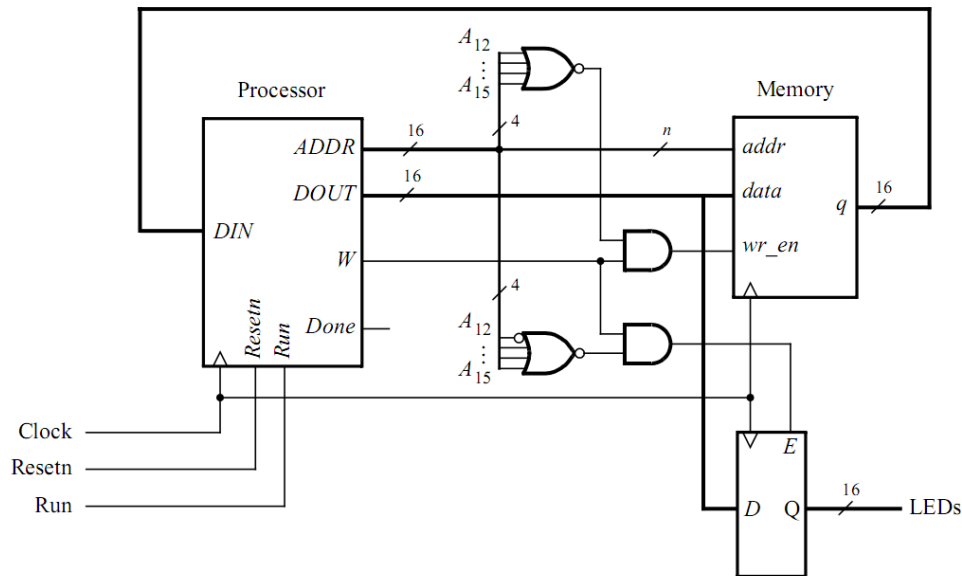

Figure 8. Connecting the enhanced processor to a memory and output register.
Figure 8 illustrates how the enhanced processor is connected to memory and other devices. The memory unit in the figure supports both read and write operations and therefore has both address and data inputs, as well as a write enable input. The memory also has a clock input, because the address, data, and write enable inputs must be loaded into the memory on an active clock edge. This type of memory unit is usually called a synchronous random access memory (synchronous RAM). Figure 8 also includes a 16-bit register that can be used to store data from the processor; this register might be connected to a set of LEDs to allow display of data on the DE2-115 board.
To allow the processor to select either the memory unit or register when performing a write operation, the circuit includes some logic gates that perform address decoding: if the upper address lines are $A_{15}A_{14}A_{13}A_{12} = 0000$, then the memory module will be written at the address given on the lower address lines. Figure 8 shows n lower address lines connected to the memory; for this exercise a memory with 128 words is probably sufficient, which implies that $n = 7$ and the memory address port is driven by $A_6 \dots A_0$. For addresses in which $A_{15}A_{14}A_{13}A_{12} = 0001$, the data written by the processor is loaded into the register whose outputs are called LEDs in Figure 8.
2. Write Verilog code for the processor and test your circuit by using functional simulation: apply instructions to the DIN port and observe the internal processor signals as the instructions are executed. Pay careful attention to the timing of signals between your processor and external memory; account for the fact that the memory has registered input ports, as we discussed for Figure 8.
3. Create another Quartus II project that instantiates the processor, memory module, and register shown in Figure 8. Use the Quartus II MegaWizard Plug-In Manager tool to create the RAM:1-PORT memory module. Follow the instructions provided by the wizard to create a memory that has one 16-bit wide read/write data port and is 128 words deep. Use a MIF file to store instructions in the memory that are to be executed by your processor.
to constrain the circuit's clock to this frequency. Read the Report produced by the Quartus II Timing Analyzer to ensure that your circuit operates at this speed; if not, use the Quartus II tools to analyze your circuit and modify your Verilog code to make a more efficient design that meets the 50-MHz speed requirement. Also note that the Run input is asynchronous to the clock signal, so make sure to synchronize this input using flip-flops. Connect the LEDs register in Figure 8 to $LEDR_{15-0}$ so that you can observe the output produced by the processor.
1. Create a Quartus II project for your circuit and write the Verilog code that includes the circuit from Figure 8 in addition to your `seg7_scroll` module.